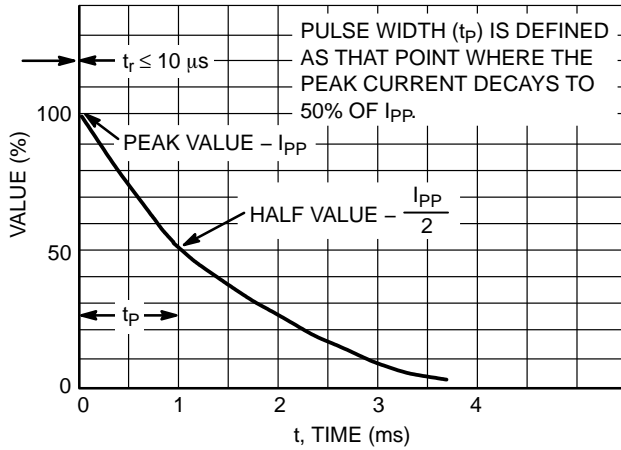
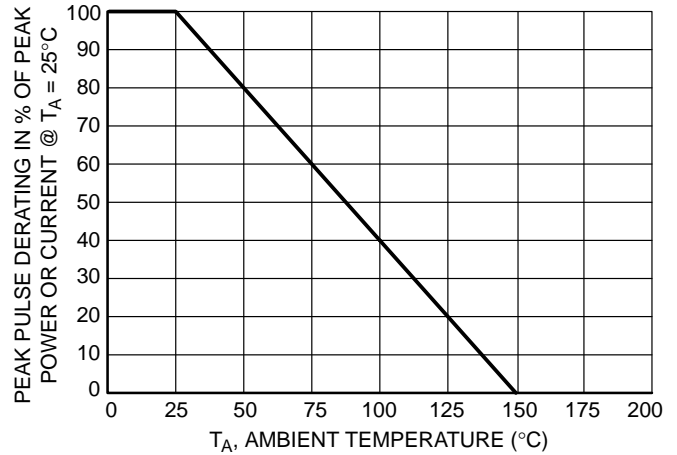

Figure 5. Pulse Waveform
Figure 6. Pulse Derating Curve
- Peak Power – 24 W @ 1.0 ms (Unidirectional), per Figure 5 Waveform
1. Non-repetitive current pulse per Figure 5 and derate above $T_A = 25^\circ\text{C}$ per Figure 6.
6. Surge current waveform per Figure 5 and derate per Figure 6